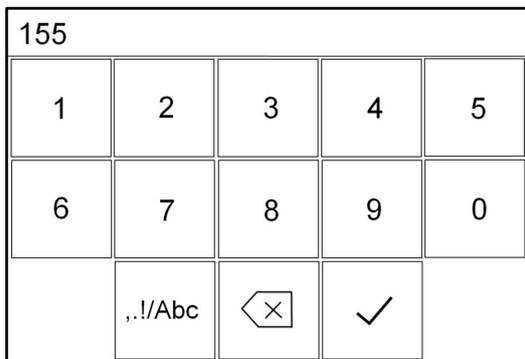
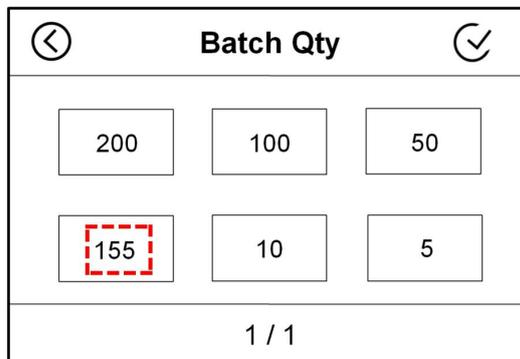

Figure 43
Figure 44
2) Click “155” in turn as Figure 43 shows, and then click “✓” to save , the interface will display as Figure 44, the original “20” will be changed to “155”, then press the “✓” key in the upper right corner of the display to save.